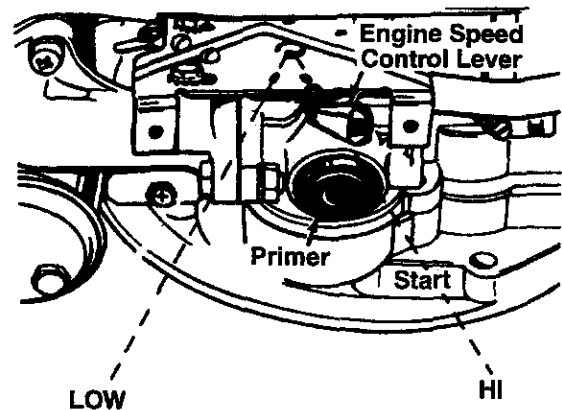

FIGURE 7.
- Press primer button as follows (cold starts only). For each initial start, push primer button three times prior to starter operation. See figure 7. Use sharp pushes, wait between each push. Repeat the above for each starter operation as necessary. Do not use primer for warm engine restarts.